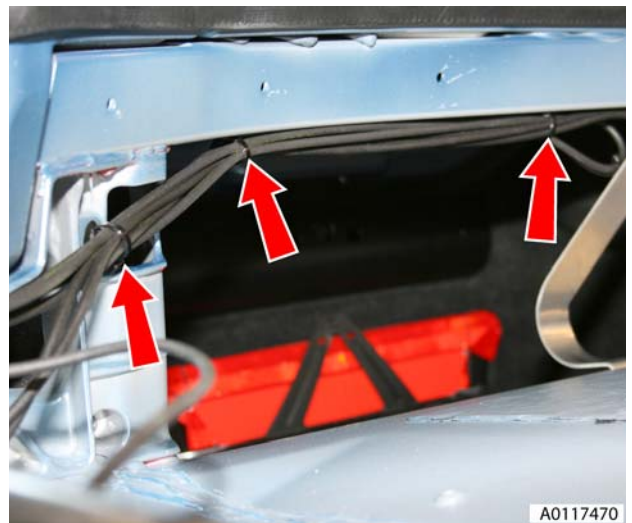

Figure 12
15. Remove harness/pipe retaining clips (x3) RH/LH (see Figure 12).